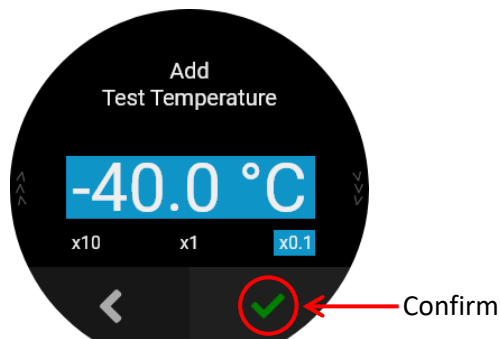

Figure 40: Add Test Temperature Screen with Tenths Digit Selected
31. Repeat again for tenths digit using **x0.1**. When finished, press the green check mark to confirm test temperature. See Figure 40.